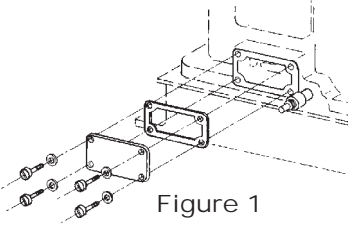

Figure 1
2. Remove crankcase inspection plate (**Figure 1**).